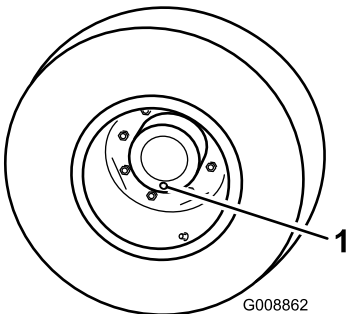

Figure 91
2. Position a wheel so that 1 of the check plugs is at the lowest (6 o'clock) position (Figure 91).